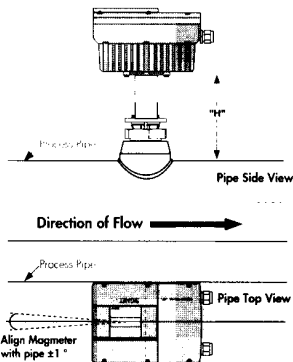

Figure 5
- Insertion Depth: The 2550 Magmeter has a probe that is 8.1025" long. The sensor must be installed at least 0.2 inches into the fluid being measured. Keeping in mind that the probe must pass through the Signet adjustment nut, the installation fitting, the pipe wall, and still have enough length to get 0.2 inches into the fluid. Low profile installation fittings will greatly increase your chances in larger pipes. Remember to calculate all the dimensions prior to selling the magmeter (see Figure 5).